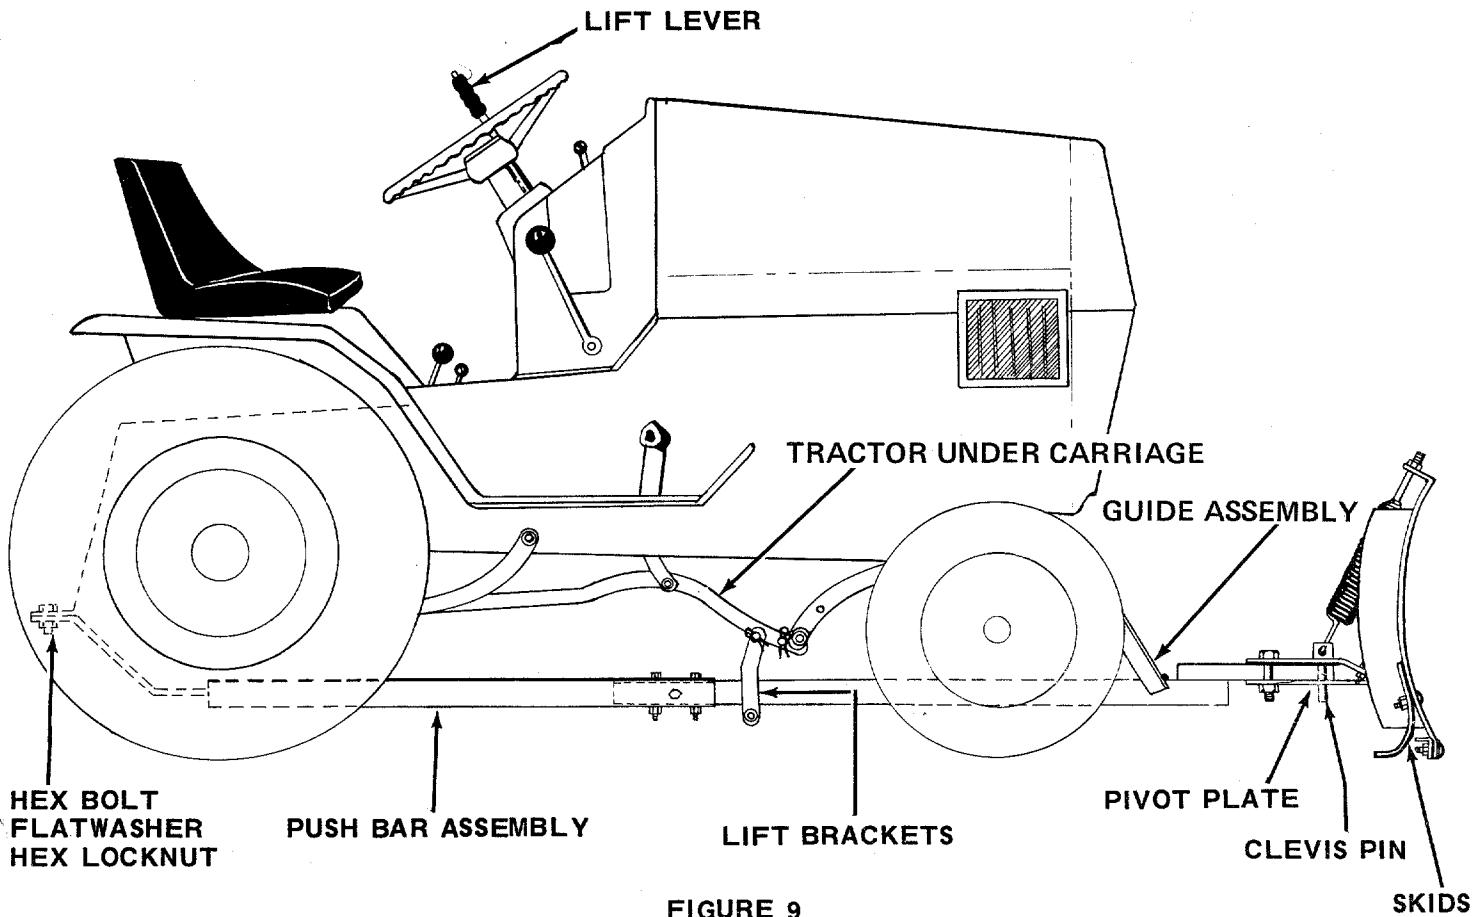
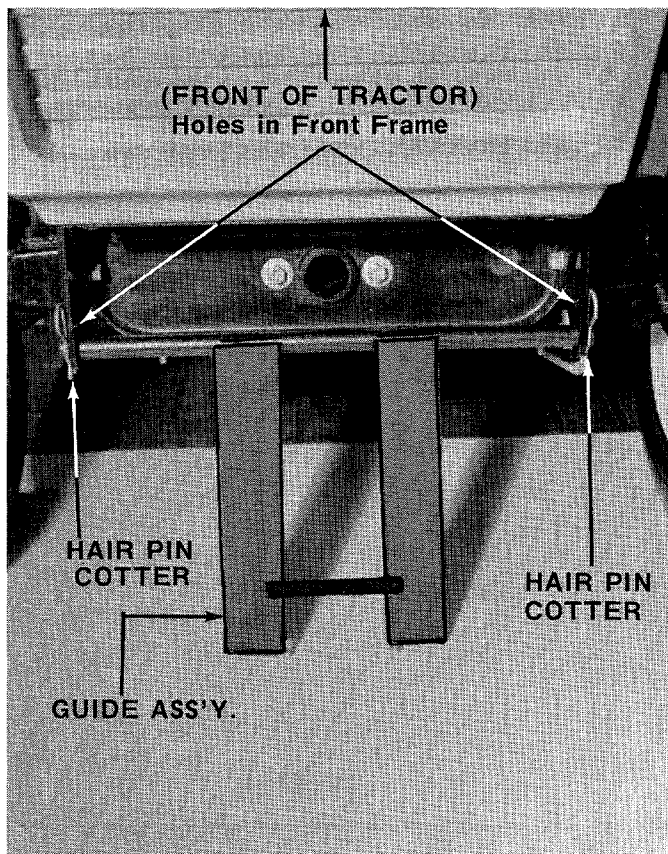

FIGURE 9
FIGURE 10
(SEE FIGURE 9)
- Place the guide assembly in position on the front of the tractor. See figure 10.
- Secure in place with two hair pin cotters. See figure 10.
Figure 10 was photographed with the blade removed for clarity. See figure 9 for guide assembly on blade.